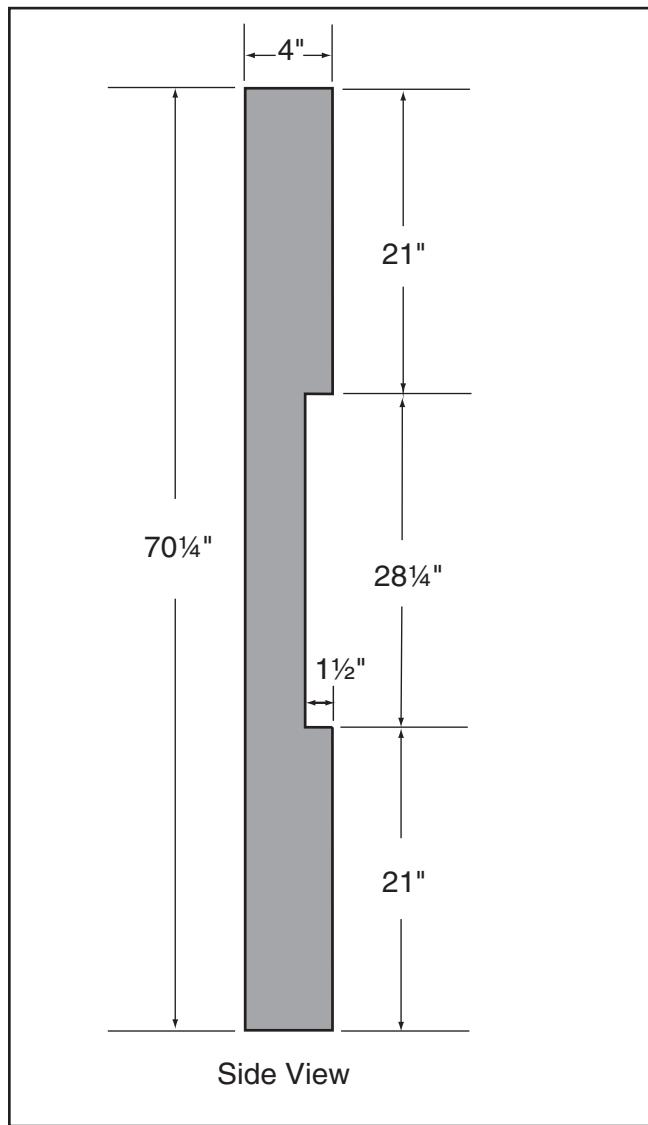

Figure 52. Dimensions of coplanarity gauge.
1. The body of the bandsaw does not allow you to place a regular straightedge across both wheels at the same time. We've found a simple way to overcome this situation. All you need is a $70\frac{1}{4}$ " x 2" x 4" board, a jointer and a circular saw. Run the 2" x 4" across a jointer on the side to be placed against the wheels, then cut a $1\frac{1}{2}$ " x $28\frac{1}{4}$ " notch out of the center. Refer to **Figure 52** for more details on how to make this gauge.